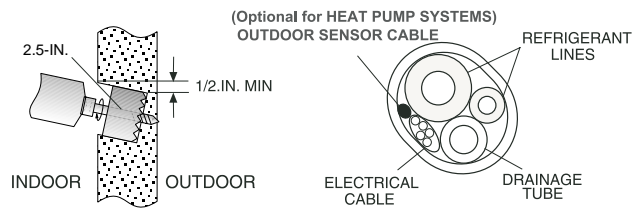

Fig. 5 — Drill Holes
To make the connections between the indoor and outdoor units, drill a 2.5-in. hole through the wall for the refrigerant lines, drainage hose and control cable passage as shown in Fig. 5.
5. Make sure the drainage hose is at the bottom side of the wall through-hole (see Fig. 5).